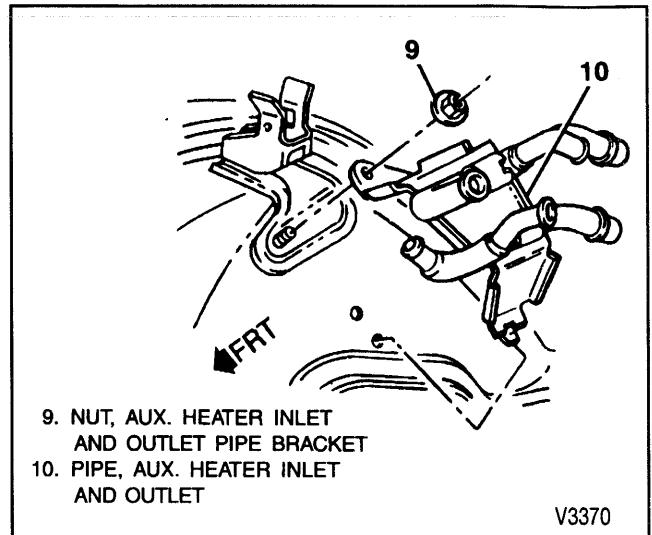

Figure 22—Auxiliary Heater Pipe
↔ Remove or Disconnect (Figures 22 and 23)
11. Hose clamp (21).
12. Heater inlet hose (16) from auxiliary heater pipe (10).
13. Push auxiliary inlet hose (22) or outlet hose (23) into auxiliary heater pipe (10) and insert J 38723 or equivalent into hose to release locking tabs.
14. Nut (9) (figure 22).
15. Auxiliary heater pipe (10).
Install or Connect (Figures 22 and 23)
1. Auxiliary heater pipe (12) (figure 22).